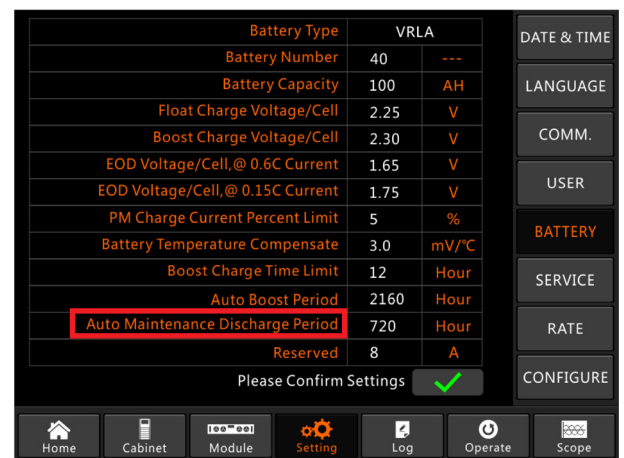

Fig. 64. Automatic battery discharge period setting.
- b. Period setting for automatic battery discharge. Select the 'Battery' option in the settings menu (see Fig. 64). Set the time period to 'Auto Maintenance Discharge Period' and confirm.